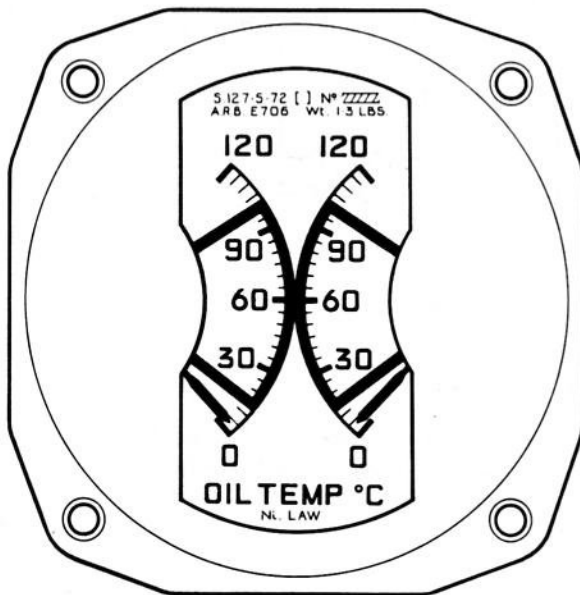

Fig.1 Indicator, Type S127.5.72
1. The indicator, Type S127.5.72 (fig.1) is calibrated in deg.C from 0 to 120 on each of the two scales.